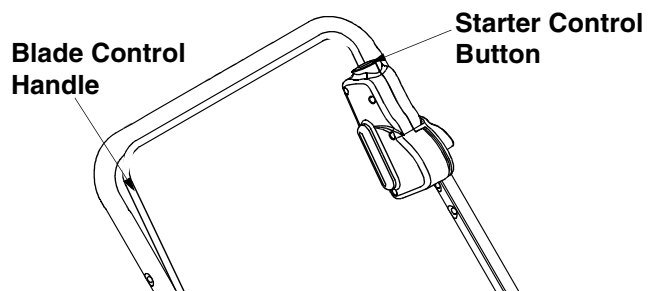

Figure 7
7. Turn safety key 1/4 turn clockwise to RUN position.
10. Using your left hand, pull the control handle all the way toward the upper handle. See Figure 7.
3. Turn safety key 1/4 turn clockwise to RUN position.
6. Using your left hand, pull the blade control handle all the way toward the upper handle. See Figure 7. Starter will de-energize and engine will start.